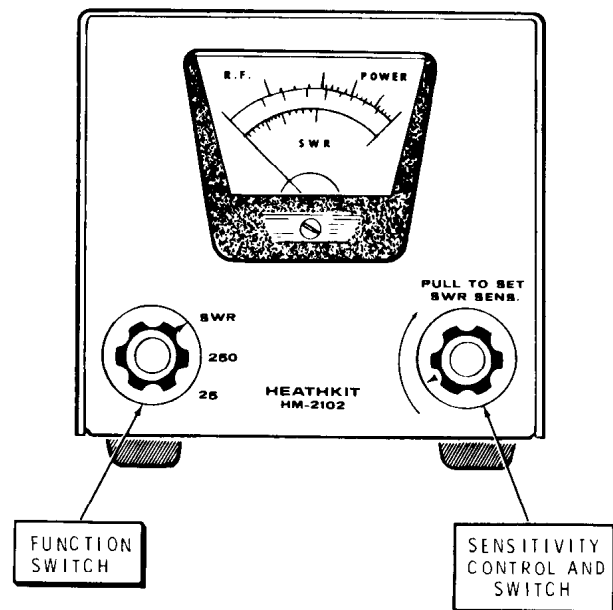

Figure 2
- ( ) Set the FUNCTION switch to 25 (see Figure 2).